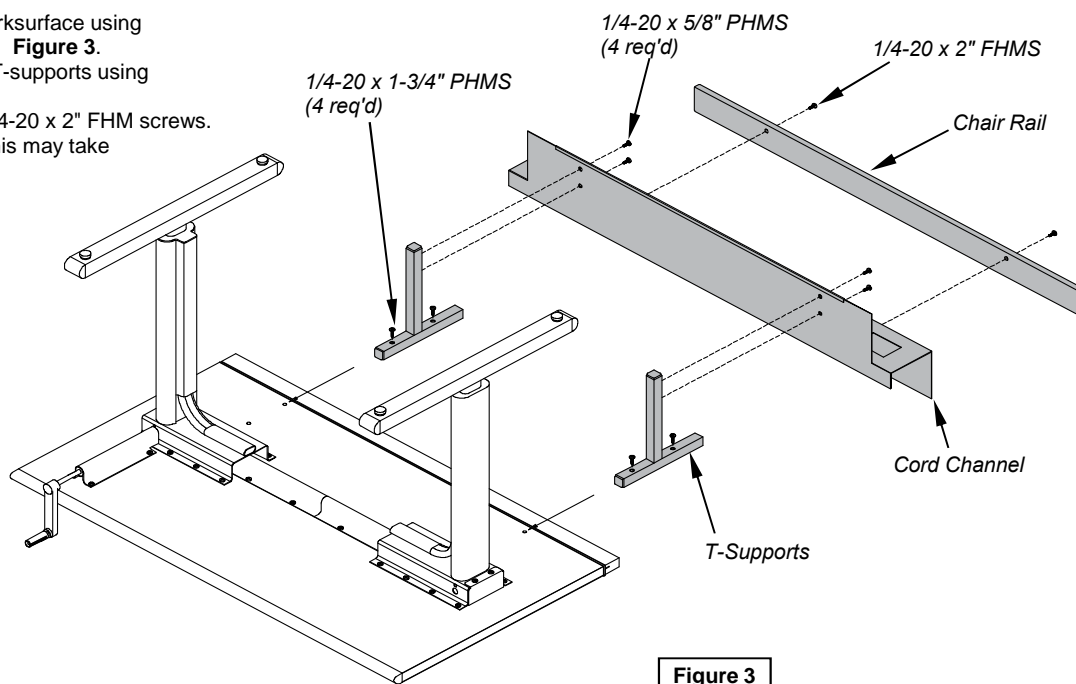

Figure 3
- Attach the T-supports to the worksurface using (4) 1/4-20 x 1-3/4" PHM screws. **Figure 3**.
- Attach the cord channel to the T-supports using (4) 1/4-20 x 5/8" PHM screws.
- Attach the chair rail using (2) 1/4-20 x 2" FHM screws.